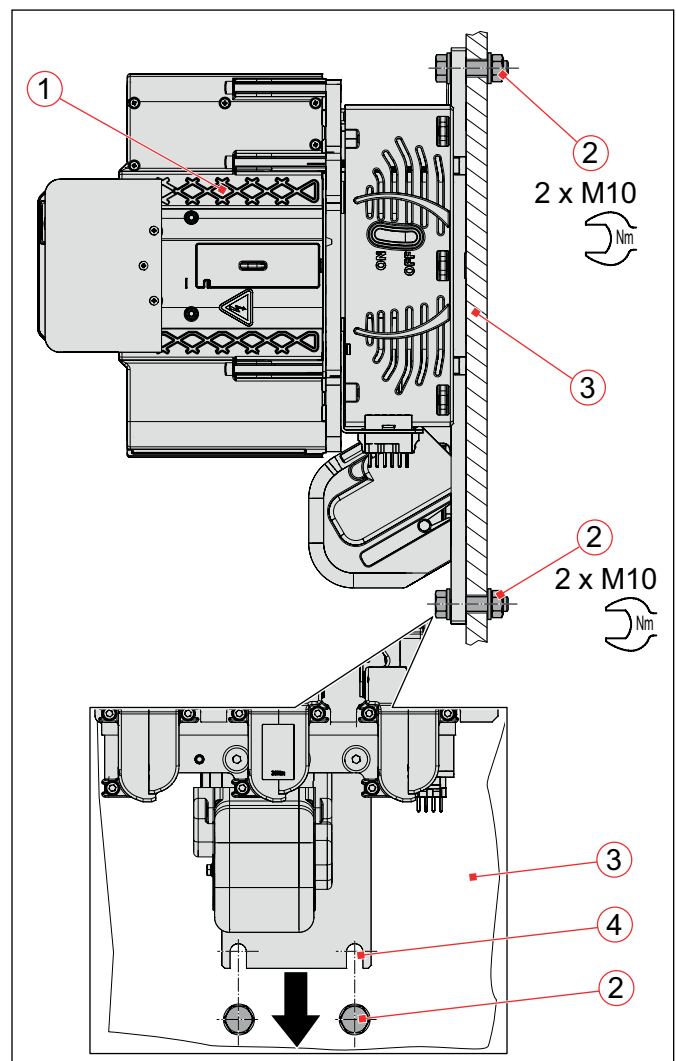

Fig. 11: CA 1315/CA 1330: Example for the installation of the contactor on a mounting plate or mounting frame
- ▶ Ensure that the contact surfaces on the mounting plate (3) or mounting frame and the bottom of the contactor are free from dirt and other contamination (e. g. metal chips).
- ▶ Position the contactor (1) on the mounting plate/frame (3) which is provided with mounting holes.
- For versions with slotted holes (Fig. 11 (4)) and vertical installation position, first slightly screw the two lower screws (2) incl. washers into the mounting plate (3) or the mounting frame and carefully slide the contactor with the slotted holes (4) onto the two screws (2).
- ▶ Screw the contactor (1) on the mounting flange to the mounting plate (3) or mounting frame using the mounting screws (2).